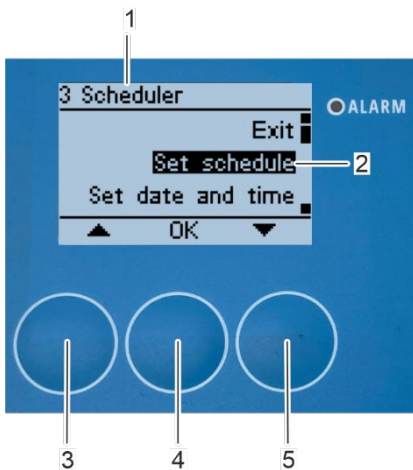

Fig. 154: Open „Set schedule“ submenu
⇒ The "3 Scheduler" submenu (Fig. 154/1) appears on the display.
3. Select the "Set schedule" submenu (Fig. 154/2) with the arrow keys [up] (Fig. 154/3) and [down] (Fig. 154/5).
4. Confirm the selection with [OK] (Fig. 154/4).